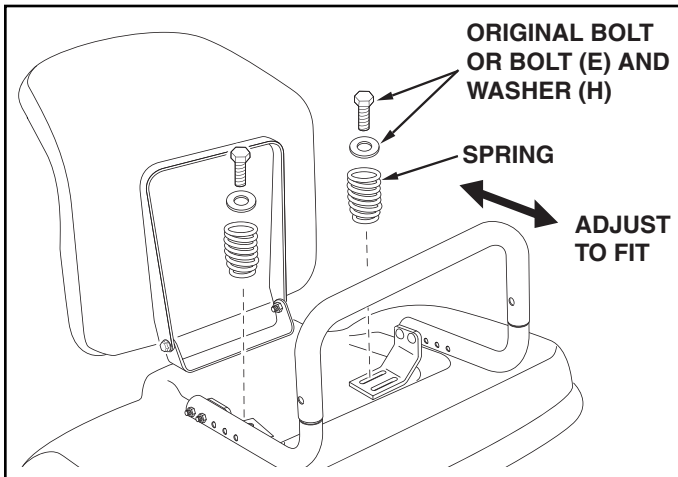

FIGURE 7
STEP 7: (SEE FIGURE 7 AND 8)
- If the base leg tubes rub against the fender, attach the adhesive pads (K) to the bottom of the base leg tubes.
- Attach the seat springs and the base brackets to the rear fender using the spring bolts that you removed. On GT tractors, if the spring bolts were less than 1" long, use the 5/16" x 1" bolts (E) and 5/16" washers (H) supplied with the Snow Cab. Align the base leg tubes on the rear fender. Use a 1/2" socket (GT) or a 9/16" socket (LT) to tighten the seat spring bolts **using moderate force. Do not overtighten.** Next, **tighten** the bolts fastening the base leg tubes to the base brackets.